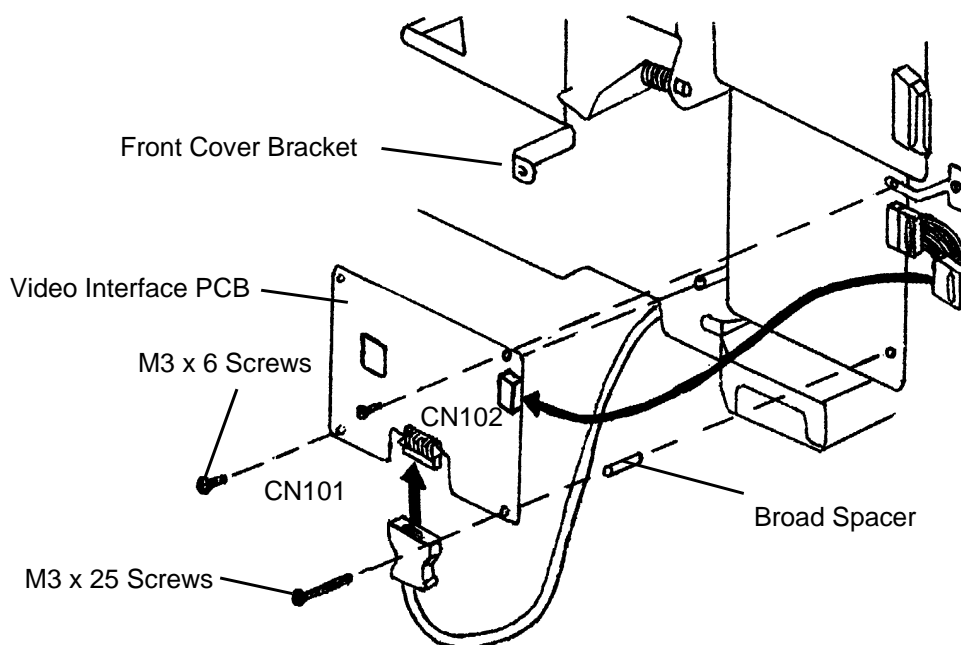

FIGURE 2 - Front View of frame with Video Interface PCB
7. Attach the upper right corner of the Video Interface PCB to the bracket installed in step 4, using a Phillips M3x6 screw with flat washer. Refer to figure 2.